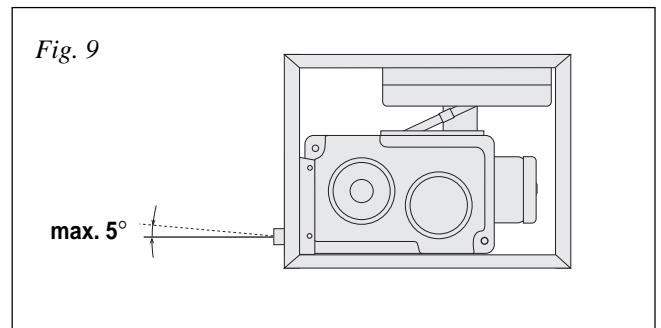

Fig. 9
- **Maximum allowable deviation from squareness is 5°** (Fig. 9). If necessary use diverter pulleys (Fig. 2).